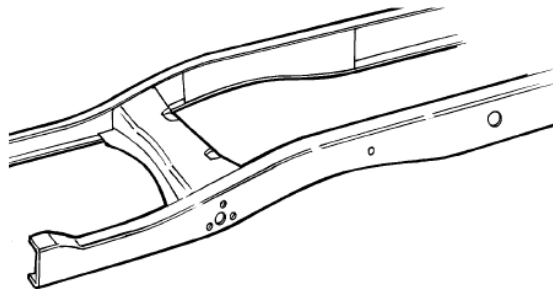

Figure 1- Boxing the Rails
3. Boxing the rails is next. The rails should be squared up as far as the flanges are concerned and made straight and true. The boxing plates are then laid up against the rails and clamped in place. Weld short sections at a time in alternating locations to minimize warpage. Grind smooth when done. See **Figure 1**.